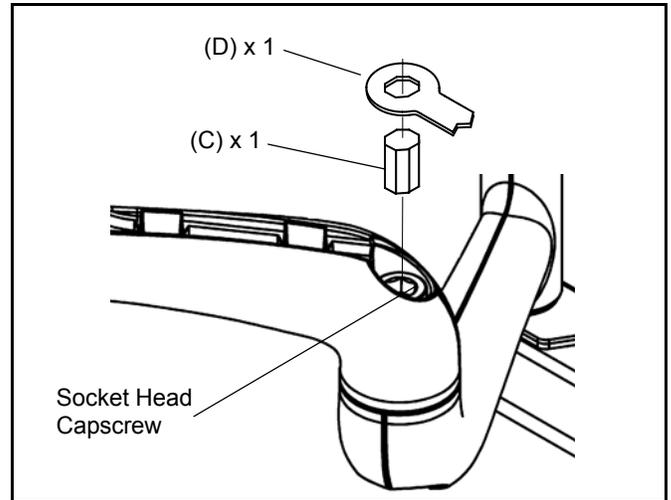

Figure 10
1. Locate the adjustment bar (H) and adjustment wrench (J).
2. Place adjustment bar (H) into socket head cap screw located at swing arm pivot point. (See Figure 10)